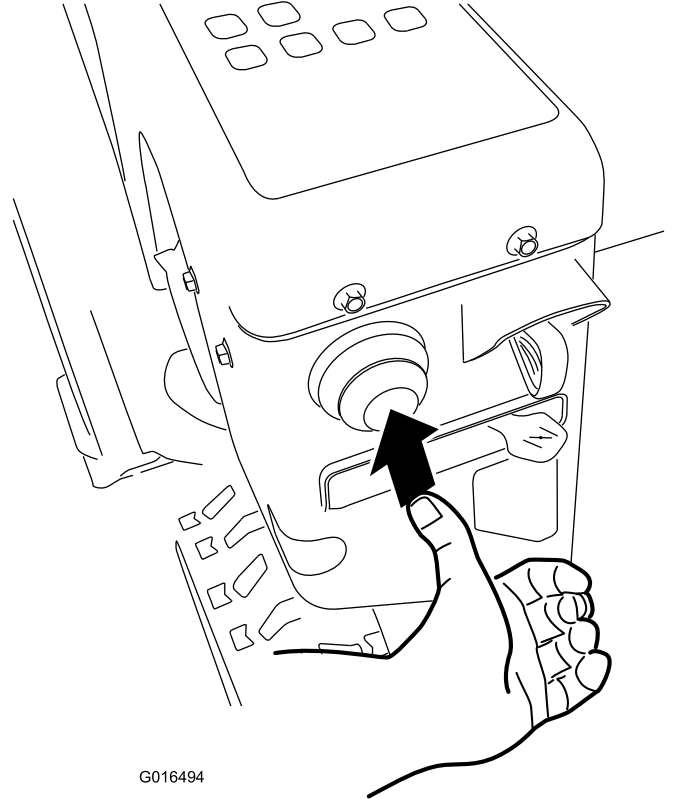

Figure 30
4. Firmly push in the primer with your thumb as indicated by the chart below, holding the primer in for a second before releasing it each time (Figure 30).